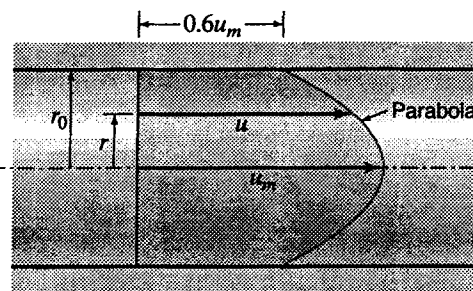

Figure X5.1.1
5.1.1 Assume the velocity profile for turbulent flow in a circular pipe to be approximated by a parabola from the axis to a point very close to the wall where the local velocity is $u = 0.6u_m$, where u_m is the maximum velocity at the axis (Fig. X5.1.1). The equation for this parabola is $u = u_m[1 - 0.4(r/r_0)^2]$. Find α .